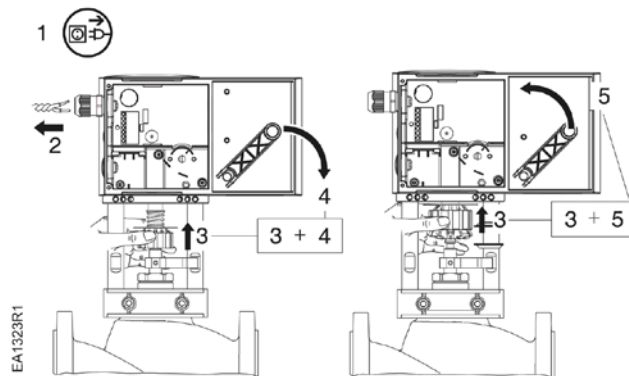

Figure 18.
4. While pushing up on the actuator's stem connector, turn the crank arm in the appropriate direction to disengage the actuator stem connection from the valve stem. See Figure 18.